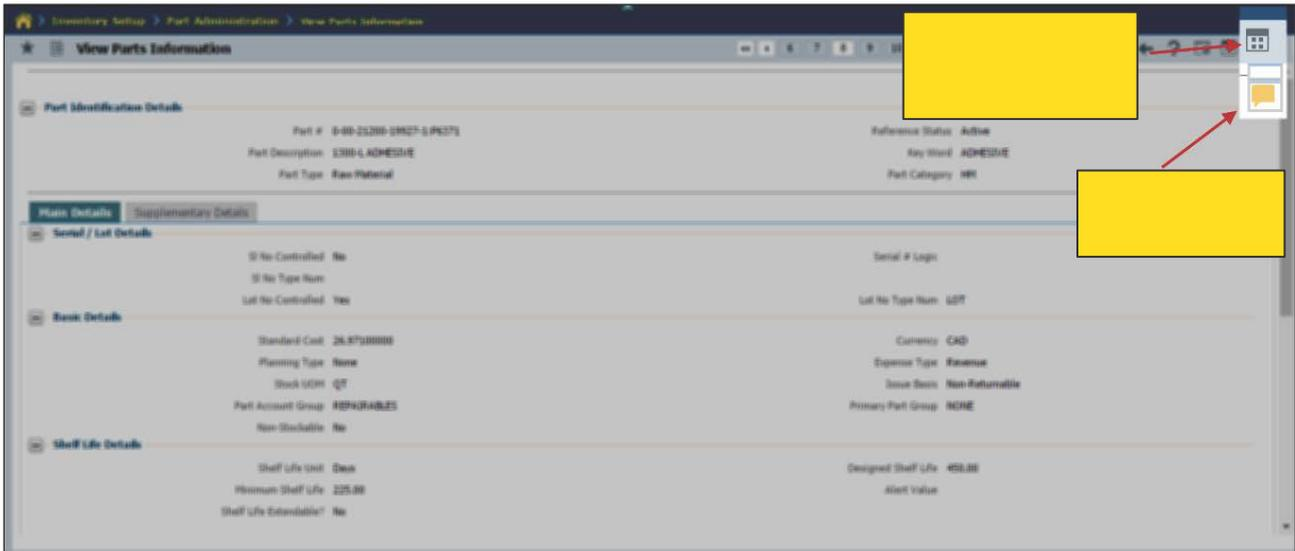

Figure 2.2 Creating Collaboration quick code
1. Select the **Smart Bar** icon in the top right corner of the screen to access **Collaborate**. See Figure 2.2.